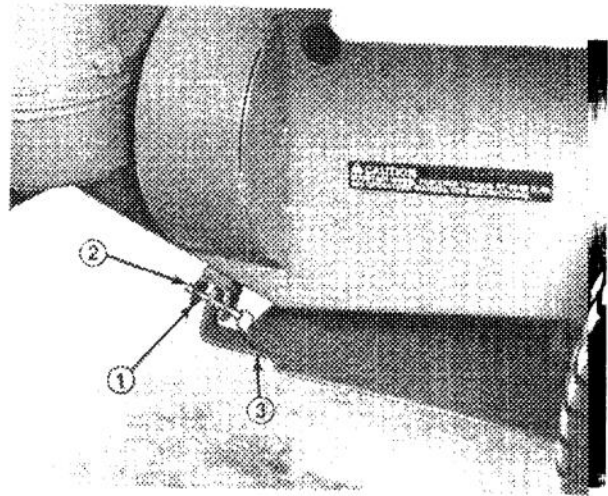

Figure 7
6. Raise rear of Belly Shield and secure to Belly Shield hangers with a clevis pin and hairpin cotter on each side (Fig. 7). Push hairpin cotter all the way to loop, to prevent loss.